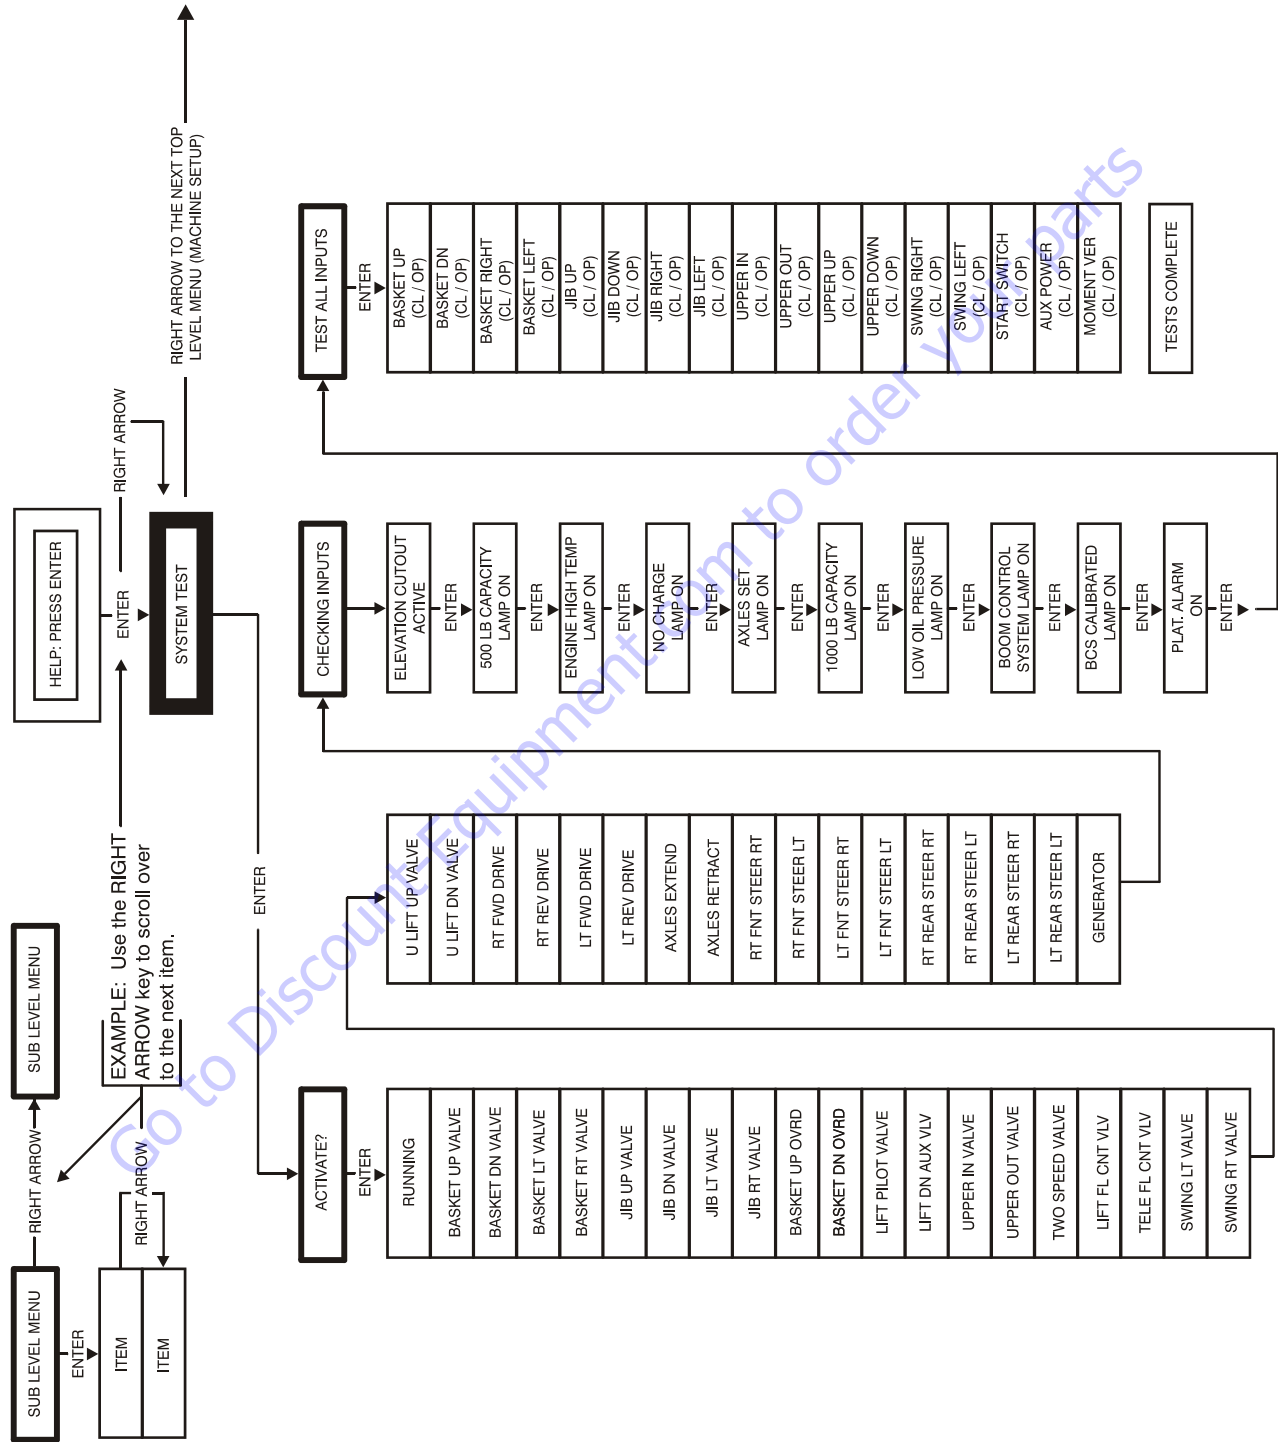

Figure 6-18. System Test Flow Chart - Ground Station Tests
6. Follow the flow path in Figure 6-18., System Test Flow Chart - Ground Station Tests and go through the component tests. Hit the ESC key during any part of the test to return to the main menu without completing all tests or wait until all tests are complete. During the TEST ALL INPUTS sequence, the analyzer allows control switches to be operated and shows if they are closed (CL) or open (OP).